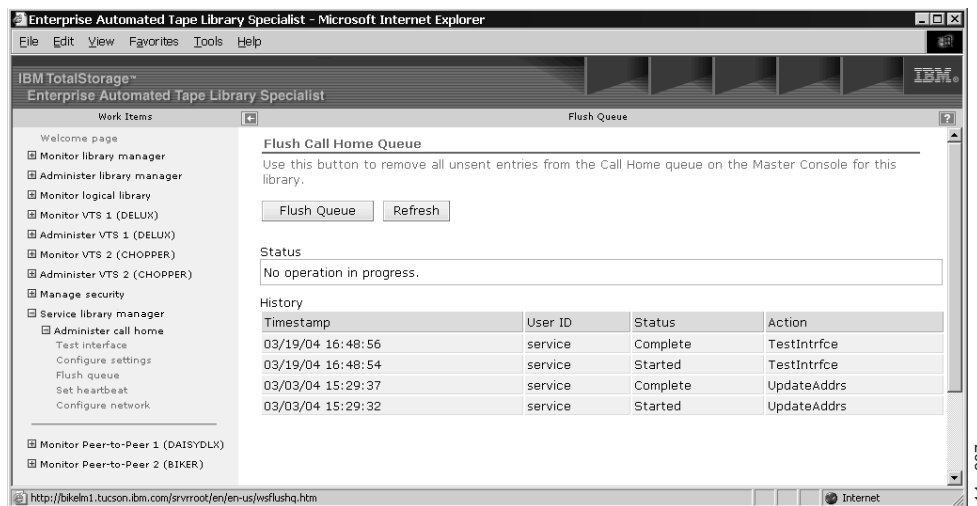

Figure 56. 3494 ATL Web Specialist - Flush Queue
1. From the “Administer call home” list on the Web Specialist screen (Figure 53 on page 43), click **Flush queue** to see Figure 56. If you are prompted for a userid and password, use the default values of **service** for the userid and **service** for the password. These values can be changed by the 3494 ATL system administrator.